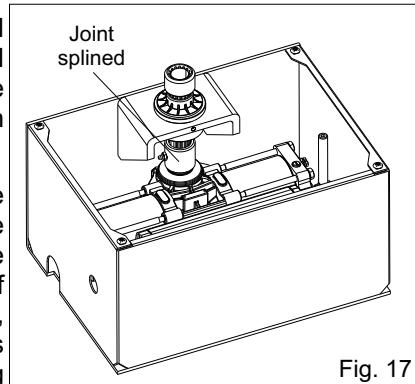
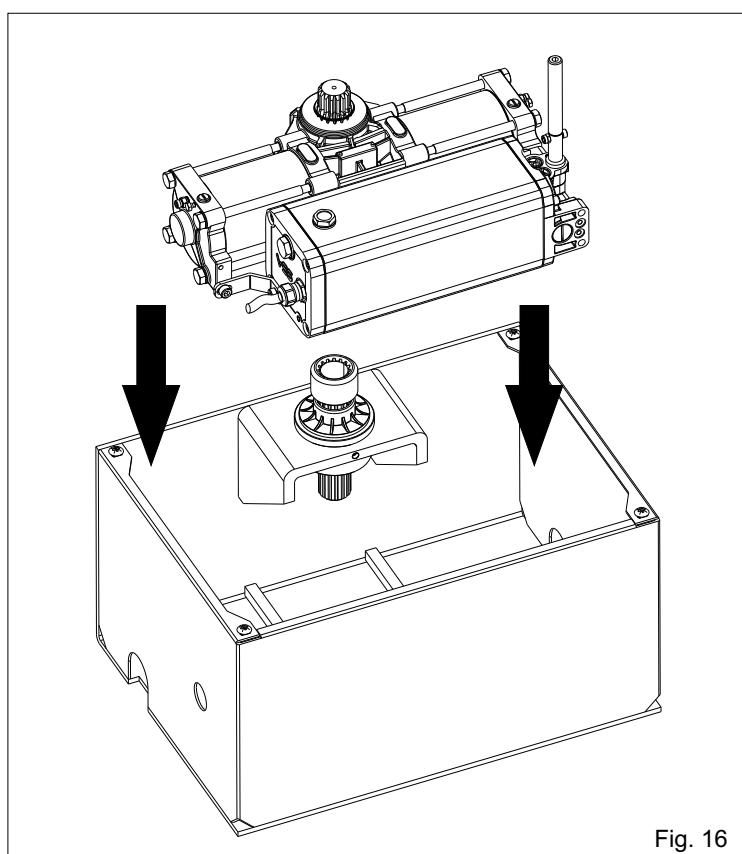

Fig. 17
Fig. 16
**4.3.** Put the operator inside the carrying box by hand (Fig. 16) and couple the pinion of the operator with the pinion of the box using the jointed splined bush (Fig. 17).